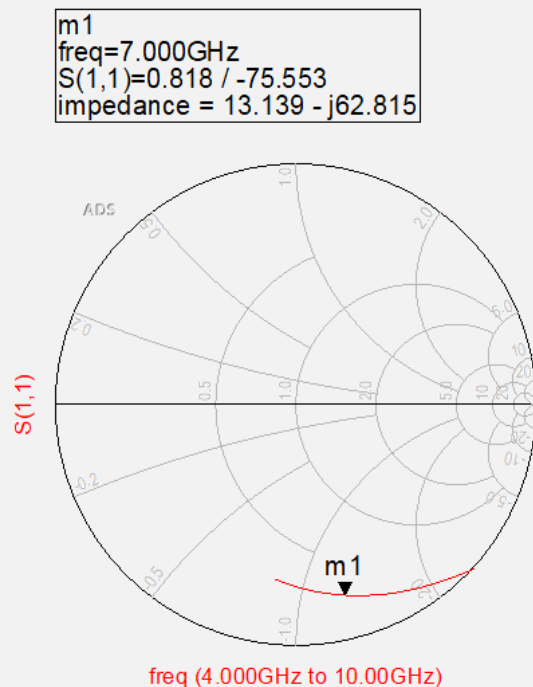

Figure 17. Smith Chart showing S(1,1)
8. Put a marker on the trace at 7 GHz. Double click on the marker to edit the properties. Under the Format tab, set **Z0** to **50**. Click **OK**. The marker impedance should show about 13.1-j62.8 at 7 GHz. This is shown in Figure 17. This value will be used for the match at the amplifier input next.